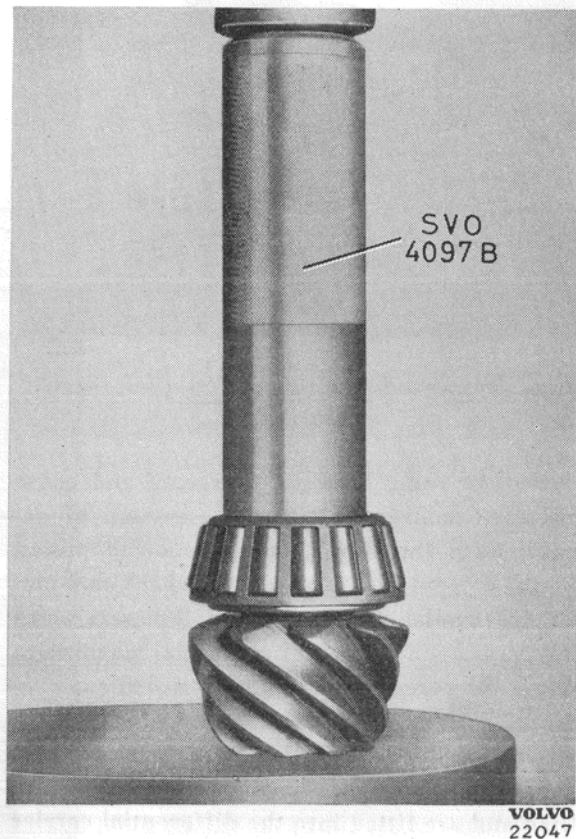

Fig. 32. Fitting the rear pinion bearing.
2. Press the rear bearing (26) onto the pinion (16). Use tool SVO 4097 B, see fig. 32.